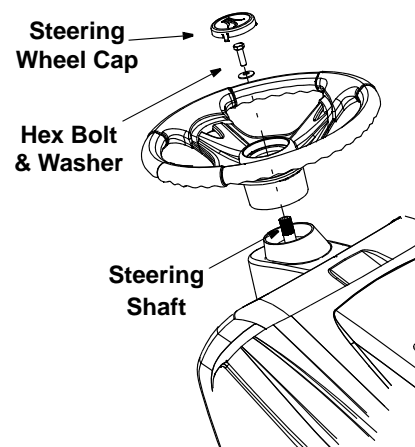

Figure 2
2. With the wheels of the tractor pointing straight forward, place the steering wheel over the steering shaft. Place the washer (with the cupped side down) over the steering shaft and secure with the hex bolt. See Figure 2.